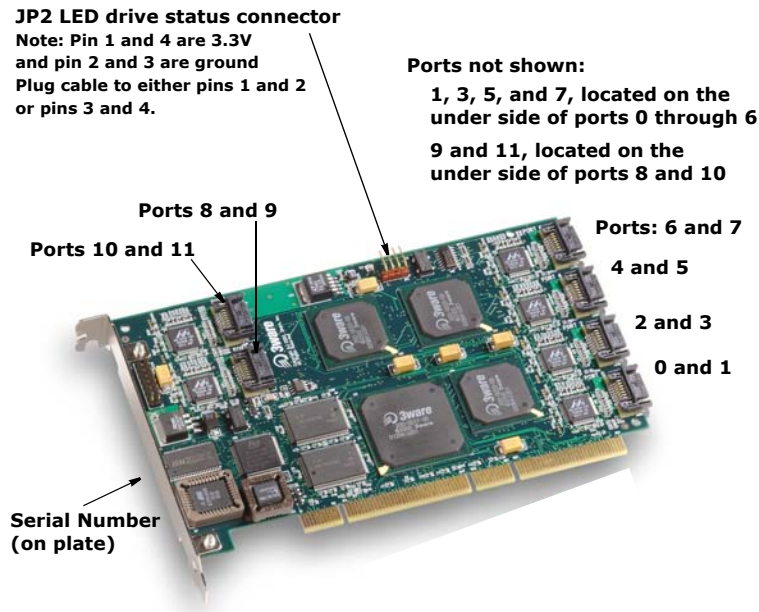

Figure 6. 12-Port Escalade 850x-12 Serial ATA RAID Controller
- 1 Connect the interface cables supplied with the product to the Serial ATA RAID Controller. See Figure 6.